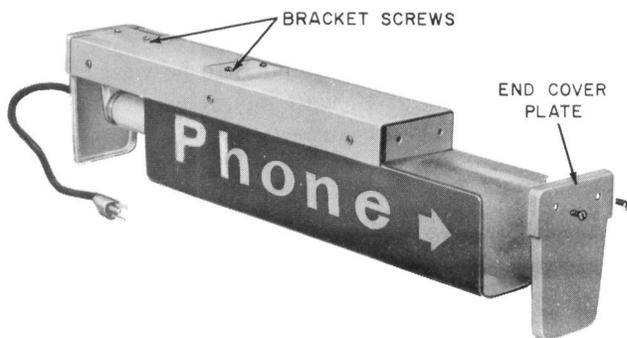

Fig. 19—KS-16422 Sign—Assembly of Parts
**3.05** The four threaded holes on top of the unit (Fig. 19) are equipped with No. 8-32 by 7/16 BHM screws and No. 8 lockwashers. Use two screws to attach the unit to the mounting bracket and two to seal the holes not used.
**3.06** Install F15T12/CW lamp as follows (Fig. 19).